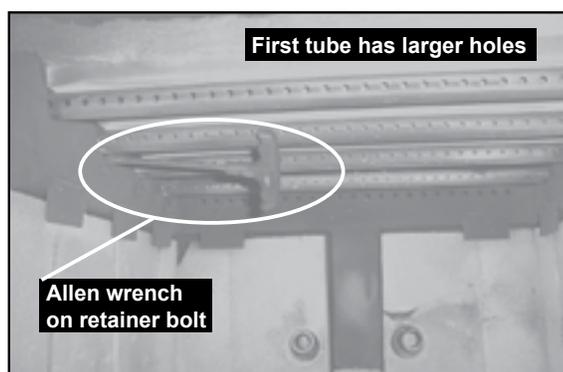

FIGURE 24B - Allen wrench on retainer bolt.
2. With a 3/16" allen wrench, remove the 2 front secondary combustion tube retainer bolts on the secondary air channel under the end of the front tubes. **See Figure 24B.** NOTE: Soak the bolts with penetrating oil for at least 15 minutes before trying to remove them.